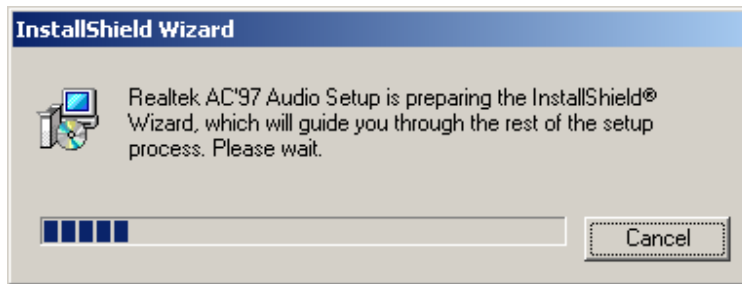

Figure 7-21: Preparing Setup Screen
Step 5: The InstallShield Wizard is prepared to guide the user through the rest of the process (Figure 7-21).